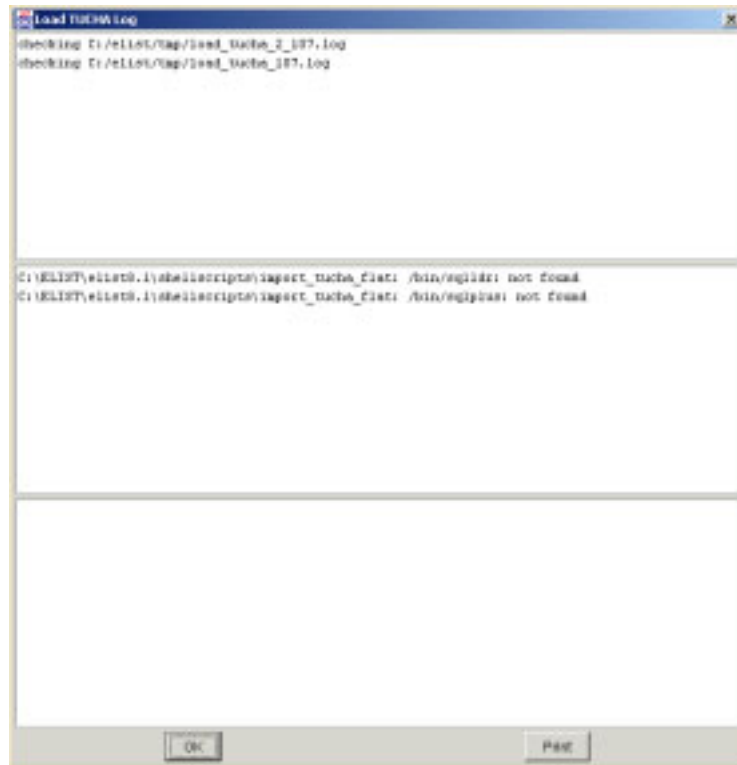

Figure 5.153 Load TUCHA Log Window
- To import the flat format TUCHA file, click OK. After a moment the file is imported and the Load TUCHA Log window opens (Figure 5.153).